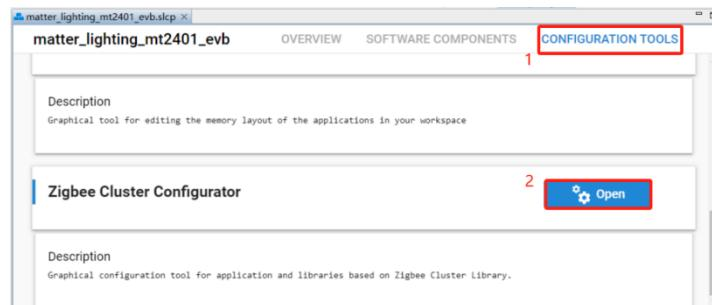

Figure 8.4
- 1) In the "CONFIGURATON TOOLS", click the "Open" of "Zigbee Cluster Configurator" to open the ZAP tool, as shown in figure 8.4